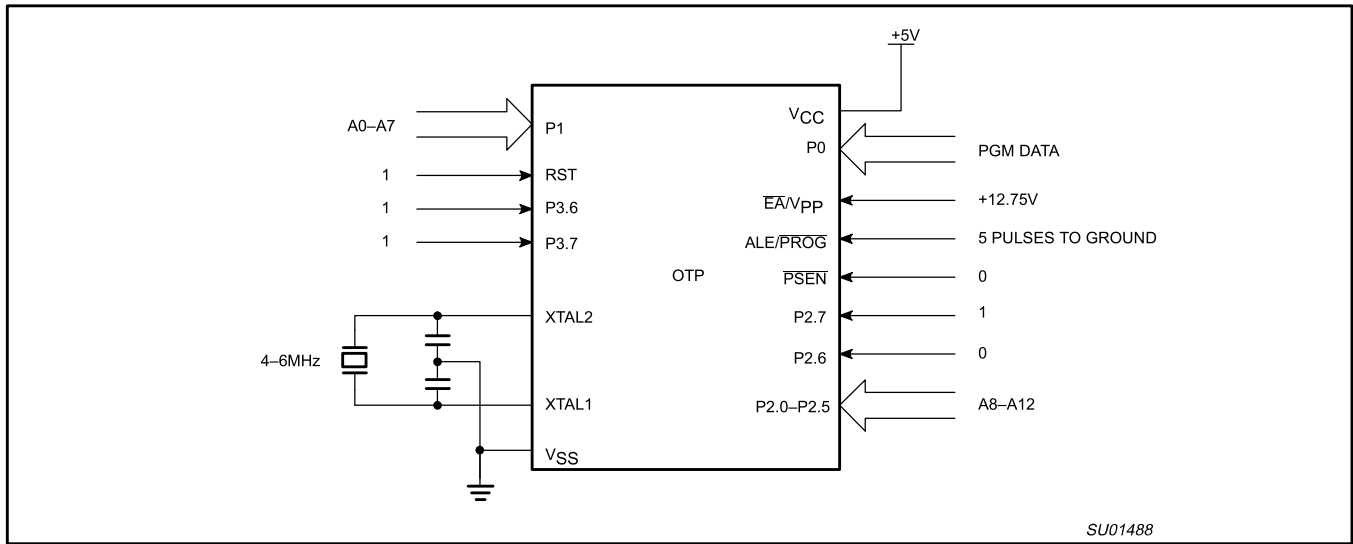
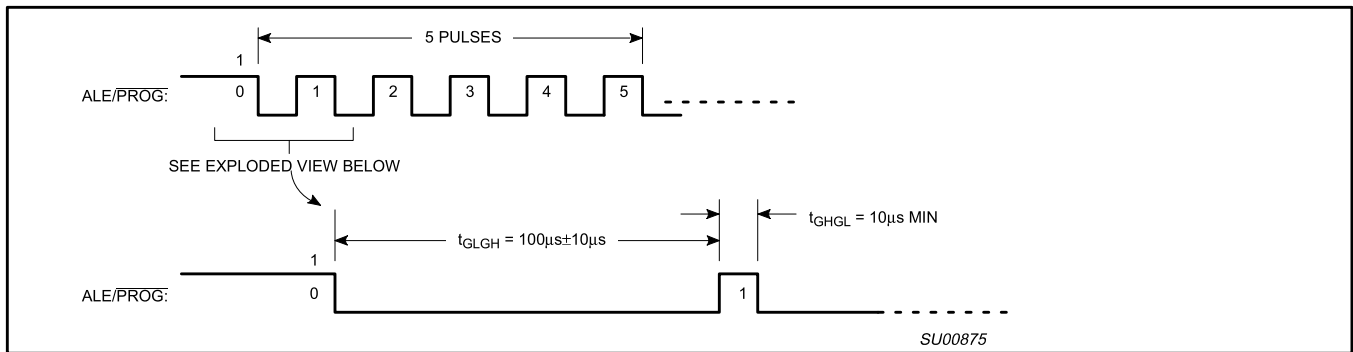
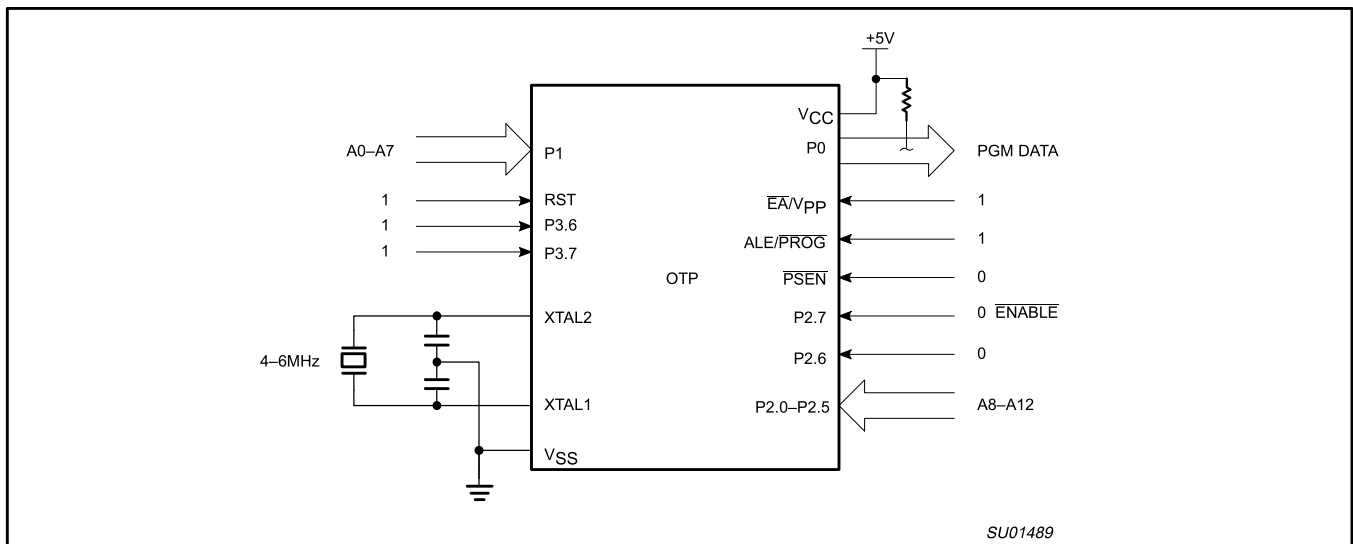

Figure 40. Programming Configuration
Figure 41. PROG Waveform
Figure 42. Program Verification
Table 9 shows the logic levels for reading the signature byte, and for programming the program memory, the encryption table, and the security bits. The circuit configuration and waveforms for quick-pulse programming are shown in Figures 40 and 41. Figure 42 shows the circuit configuration for normal program memory verification.
The setup for microcontroller quick-pulse programming is shown in Figure 40. Note that the device is running with a 4 to 6 MHz oscillator. The reason the oscillator needs to be running is that the device is executing internal address and program data transfers.
The address of the EPROM location to be programmed is applied to ports 1 and 2, as shown in Figure 40. The code byte to be programmed into that location is applied to port 0. RST, \overline{PSEN} and pins of ports 2 and 3 specified in Table 9 are held at the 'Program Code Data' levels indicated in Table 9. The ALE/PROG is pulsed low 5 times as shown in Figure 41.
If security bits 2 and 3 have not been programmed, the on-chip program memory can be read out for program verification. The address of the program memory locations to be read is applied to ports 1 and 2 as shown in Figure 42. The other pins are held at the 'Verify Code Data' levels indicated in Table 9. The contents of the address location will be emitted on port 0. External pull-ups are required on port 0 for this operation.
- * FOR PROGRAMMING CONFIGURATION SEE FIGURE 40.
FOR VERIFICATION CONDITIONS SEE FIGURE 42.